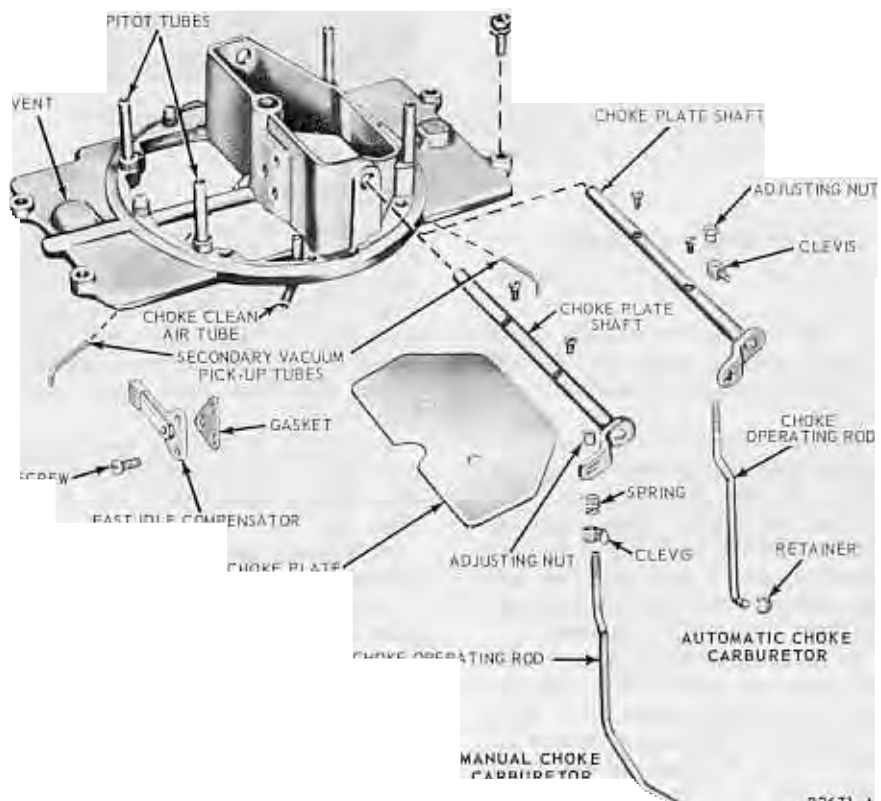

FIG. 14—Air Horn Assembly
2. On an automatic choke equipped carburetor, remove the choke plate operating rod to choke lever retainer (Fig. 14).
On a manual choke equipped carburetor, unscrew the plastic nut from the choke rod and remove the choke rod spring (Fig. 14). Remove the swivel from the choke lever. Remove the choke rod. Remove the upper and lower seal washers and the seal from the choke rod seal retainer in the air horn.
choke housing. Position the choke thermostatic spring lever on the flange of the choke shaft, and install the retaining screw and washer (Fig. 14).